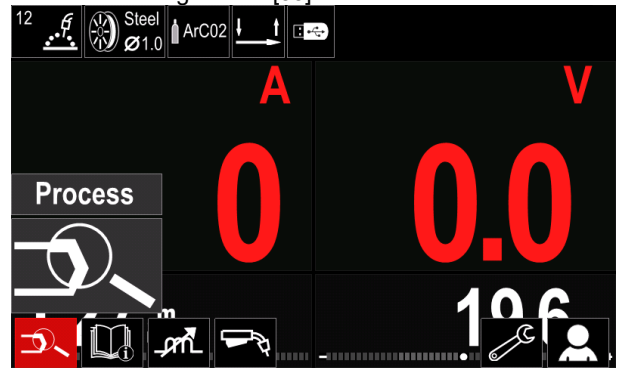

Figure 11
- Access to the „User Setup“ (see the Figure 11.)